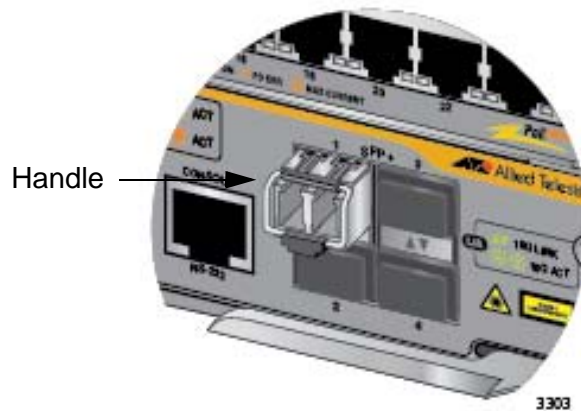

Figure 122. Positioning the Handle on the Transceiver
5. Verify the position of the handle on the transceiver. If the transceiver is in slot 1 or 3, the handle should be in the upright position, as shown in Figure 122. If the transceiver is in slot 2 or 4, the handle should be in the down position.